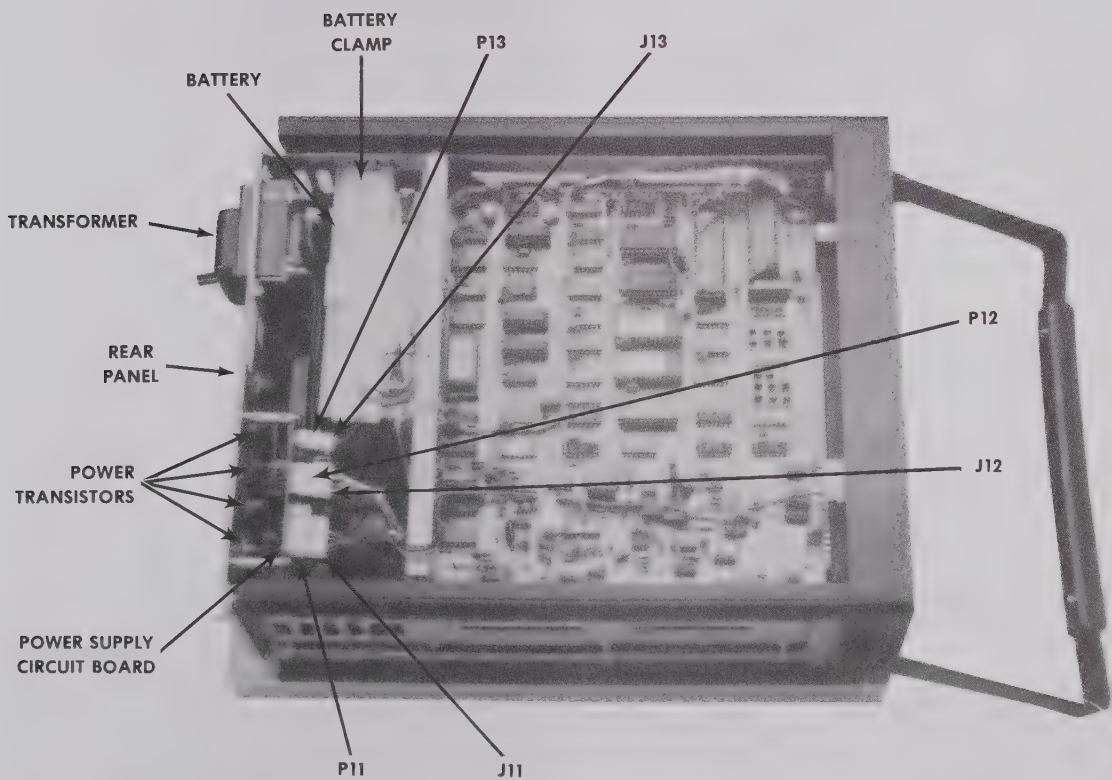

Figure 2-5 Power Supply (Inside Rear Panel View)
4. Two cable clusters go from the front to the rear panel. One has a 4-pin plug and the other has a 5-pin plug, going to the power supply. Disconnect these white plastic plugs on the inside rear panel by lifting the locking tab and pulling the connector straight out (Figure 2-5).
11. Rear Panel. Disconnect the two-pin battery connector (J13) from the power supply board (Figure 2-5).
16. Battery. To take out the battery, remove the three panhead screws (BAS) that fasten the sheet-metal bracket holding the battery in place. (One screw is on the inside of the side panel and two screws are on the chassis divider panel. See Figures 2-5 and 2-6.)
1. Battery. To reinstall the battery, after replacing it in its space, refasten the sheetmetal bracket with the original three panhead screws (BAS) as illustrated in Figures 2-5 and 2-6.
5. Reconnect the two-pin battery connector (J13) to the power supply board (Figure 2-5).